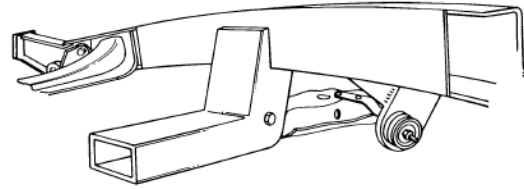

Figure 7- Strut Rod Install
12. Install the strut rod onto the control arm. Now, assemble onto the strut rod the large rubber bushings, including the cupped washers, and the strut mount plate. Be certain to fully tighten the nut on the strut rod to its fully seated position. See **Figure 7**. There are two rubber bushing sets available; the standard replacement and the improved set. We recommend the improved set, as it provides more stability to the front suspension. The Pinto and Mustang strut rods are different lengths. We recommend the use of Pinto strut rods, as they are bent less than the Mustang strut rods. You will find that with either strut rod the strut rod plate does not line up with the bottom of the frame rail. The strut rod must be heated in the elbow area and bent outward. The rod is bent outward until the strut mounting plate lines up to the frame rail. You will find that because the Pinto strut rod is initially bent less and requires much less bending. The strut rod will act as an alignment fixture while you tack weld the mount plate in place, then tack weld the gusset in place. Remove the strut rod, bushings, and arm, and finish welding to the frame and each other.